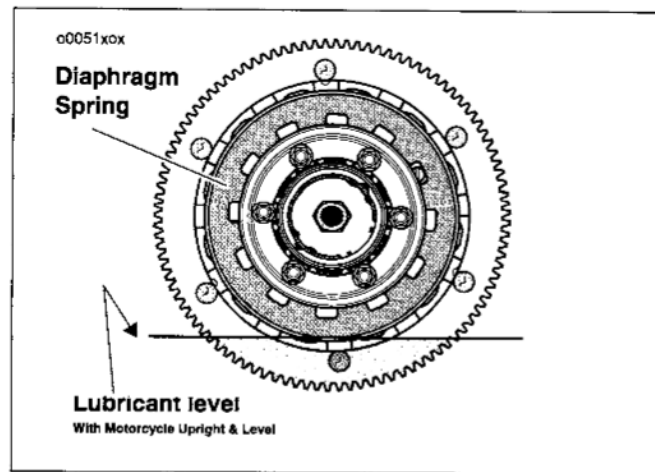

Figure 41. Lubricant Level
4. See Figure 41. Primary chain case lubricant should be at the bottom of the clutch diaphragm spring.